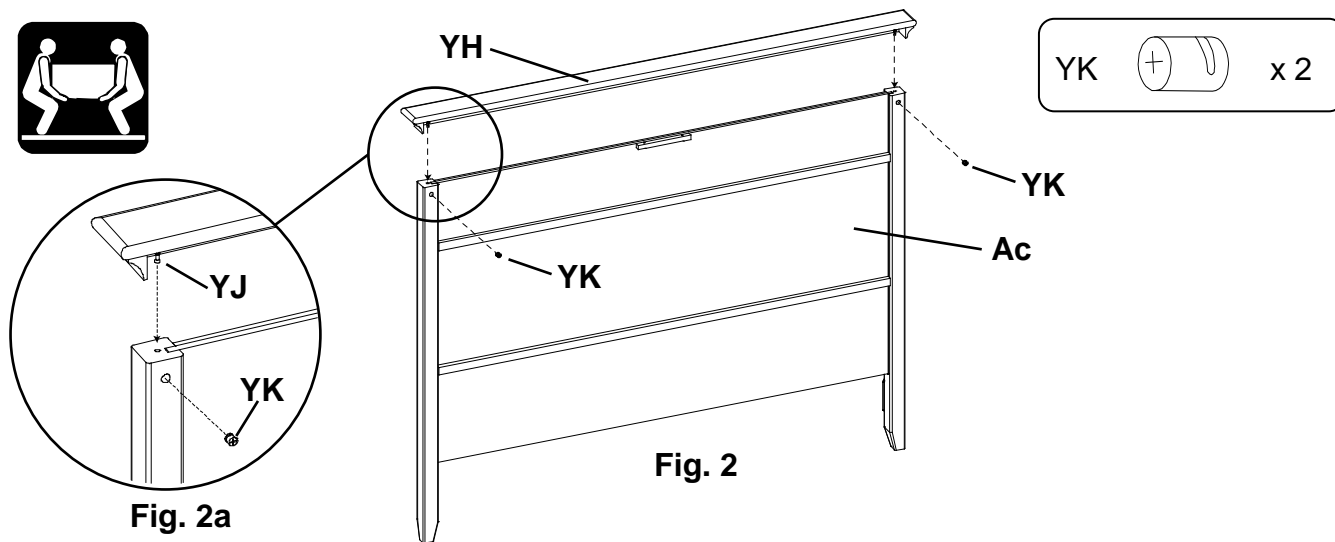

Fig. 2
2. **NOTE: READ CAM INSTRUCTIONS NOW BEFORE YOU BEGIN THE FOLLOWING STEP.** Insert Cam Housings (YK) into the two pre-drilled holes on the Headboard Assembly (Ac) as shown in Figure 2. Lower Top Assembly (YH) so that the Cam Connectors (YJ) fit into the housings (YK) tighten the cam housings as indicated in the Cam-lock System instructions. See Figures 2 and 2a.